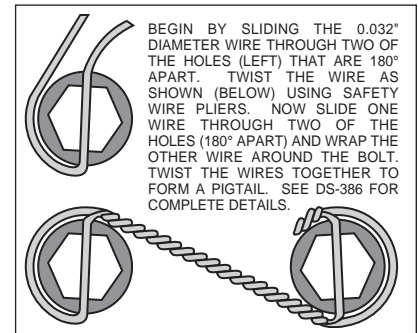

Figure 3. Safety Wire Diagram
- The caliper mount bracket assembly (1) should be installed first with clean, dry threads on the mounting bolts. Install the bracket (1) on the inboard side of the hub by sliding bolt (2) through washer (3). Place two shim washers (4) between the bracket (1) and the mounting ears. The bracket must tighten squarely against the inboard side of the caliper mount ears on the upright. Inspect for interference from casting irregularities, machining ridges, burrs, etc. Later, after the caliper, pad, and rotor alignment has been checked, and any necessary shims have been put in place, the mounting bolts should be coated with red *Loctite*® 271 and torqued to 47 ft-lbs.
- With the larger I.D. side of the rotor (6) facing away from the hat (7), bolt rotor (6) to hat (7) through the backside of the rotor using washers (8) and bolts (9). Be sure all bolts thread in smoothly and are snug. Then, torque all bolts in an alternating sequence to 85 **in-lbs**. The rotor mounting bolts (9) must be lockwired using standard 0.032 inch diameter stainless steel safety wire as shown in Figure 3. Please refer to Wilwood's data sheet DS-386 (available at www.wilwood.com/pdf/ds386.pdf) for complete safety wire installation instructions.